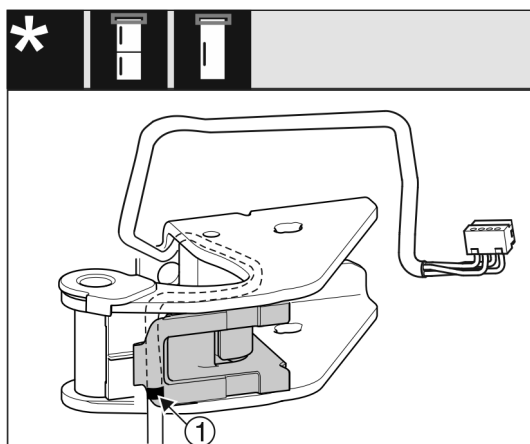

Fig. 28
- The center mark Fig. 28 (1) must be positioned on the edge of the cable bracket.